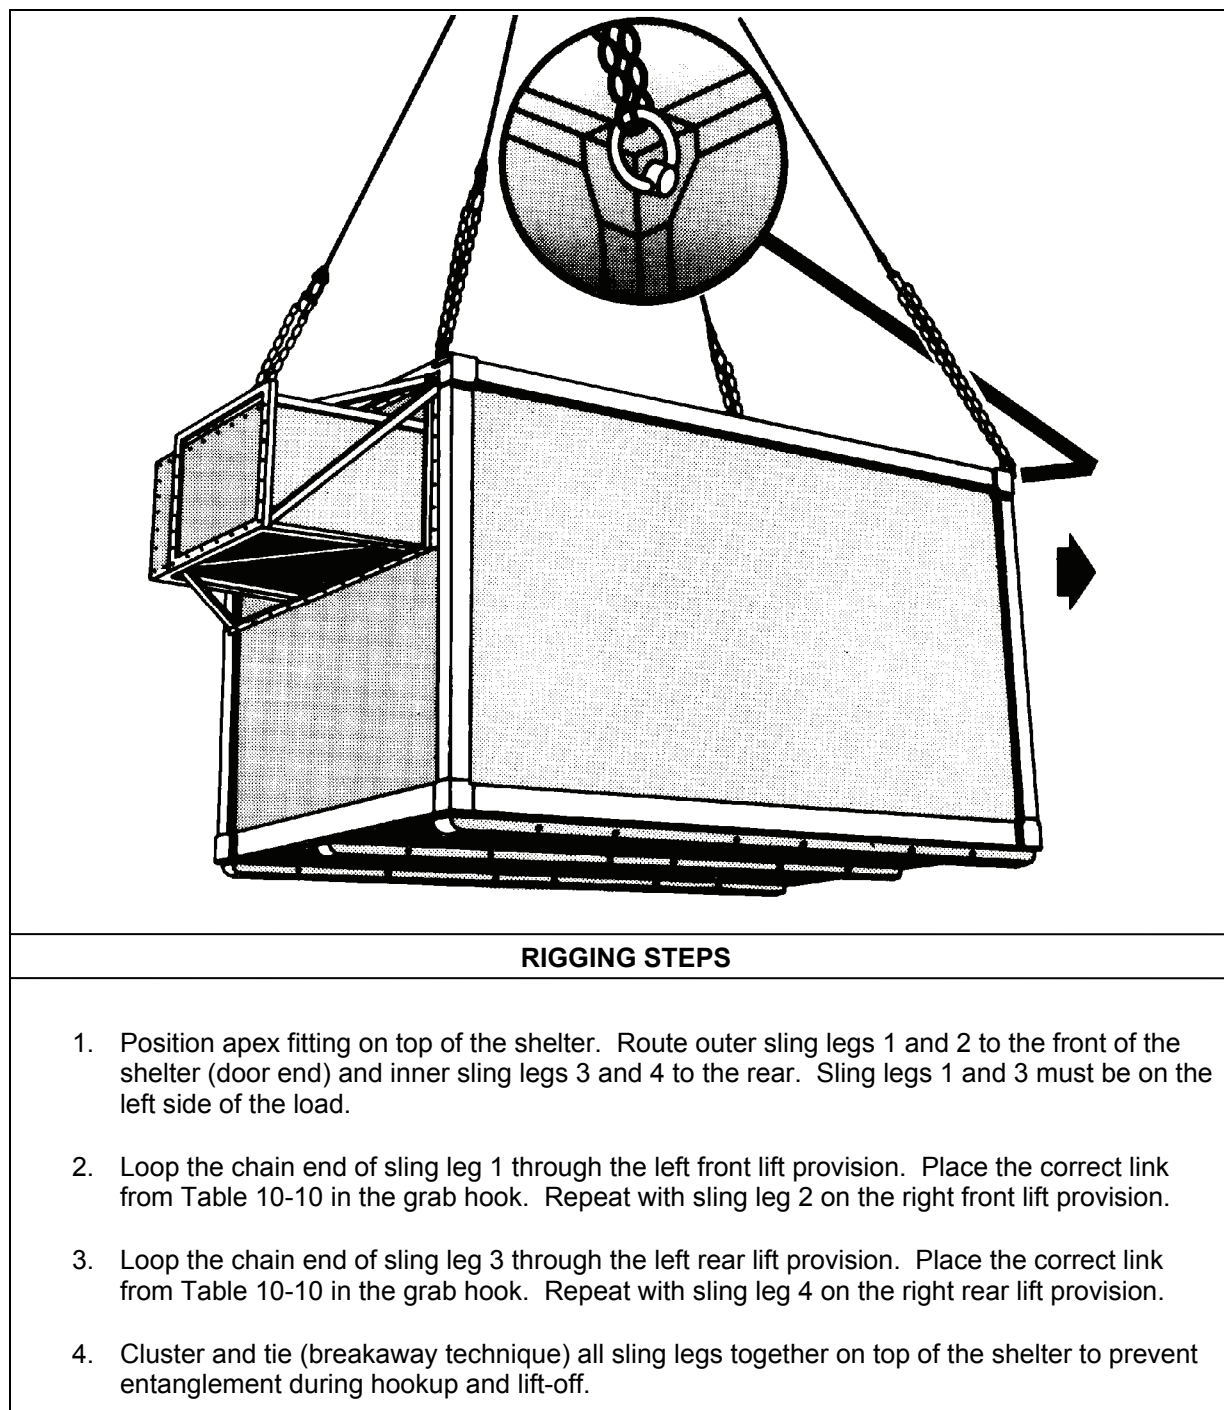

Figure 10-10. Hardened Army Tactical Shelter
- **Rigging.** Rig the load according to the steps in Figure 10-10.